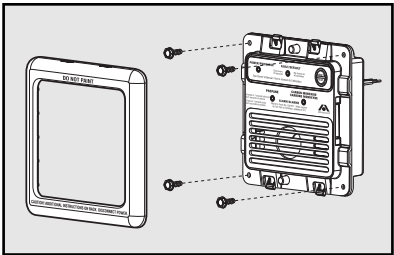

Figure 4: Detector Assembly
- 8)** Snap the bezel over the detector. See the detector assembly drawing in Figure 4.